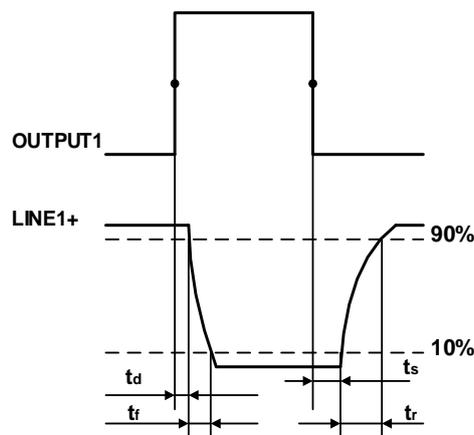

Figure 7-4 Parameter of opto-isolated output circuit
- Rising time delay =  $t_r+t_d$ :  $<50\mu s$  (0°C~45°C) (parameter description is shown in Figure 7-4)
- Falling time delay =  $t_s+t_f$ :  $<50\mu s$  (0°C~45°C) (parameter description is shown in Figure 7-4)
- Rising time delay =  $t_r+t_d$ :  $<20\mu\text{s}$  ( $0^{\circ}\text{C}\sim 45^{\circ}\text{C}$ ) (parameter description as shown in Figure 7-4)
- Falling time delay =  $t_s+t_f$ :  $<20\mu\text{s}$  ( $0^{\circ}\text{C}\sim 45^{\circ}\text{C}$ ) (parameter description as shown in Figure 7-4)